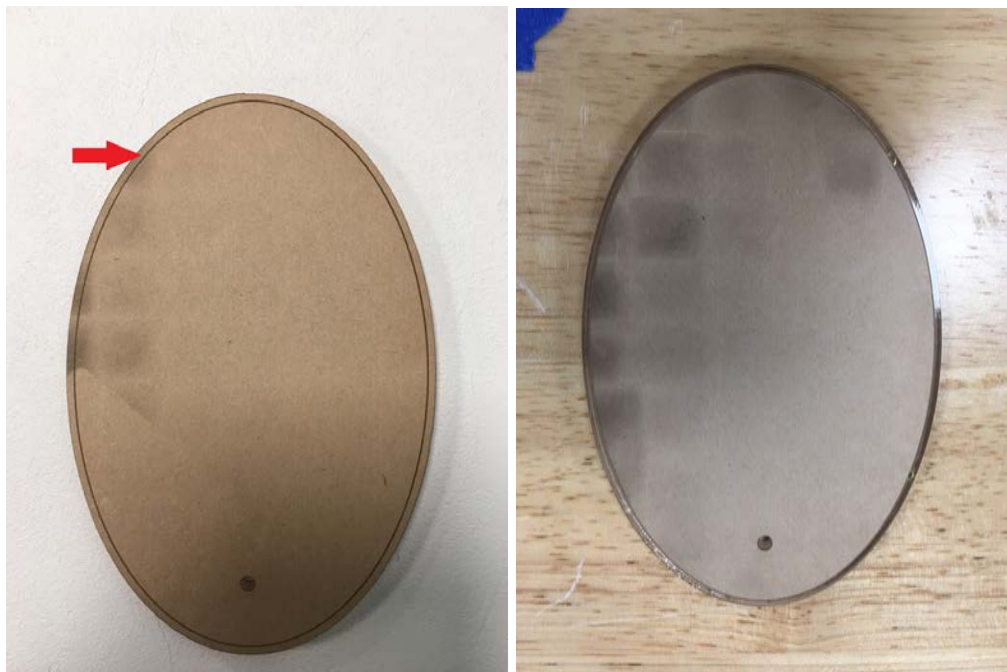

Figure 44: Removal of thin outer paper ellipse to reveal surface for adhesive spray
6. Remove the thin outer paper ellipse on what will be the interior window surface of the bubble module (Fig 44) to reveal an ellipse outline on the acrylic. This is the surface the repositionable spray adhesive will cover to stick onto the latex in a later step.